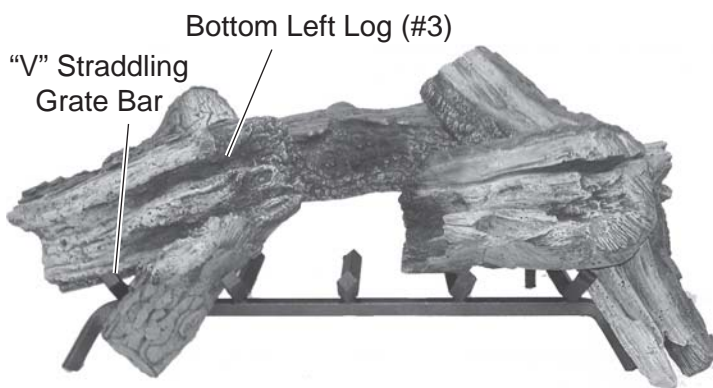

Figure 133 - Straddling "V" of Bottom Left Log (#3) on Grate Bar
5. Place Bottom Left Log #3 on grate. The “V” of the log should straddle the end grate bar. *See Figure 133.*